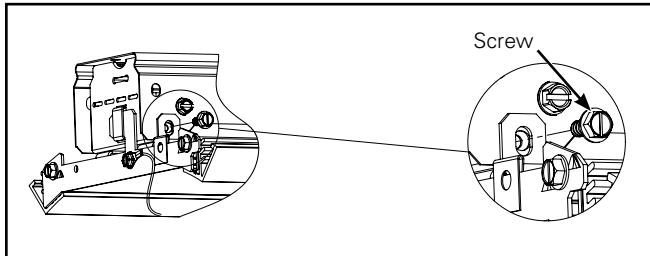

Figure 4.
4. Secure the waveguide assembly to channel assembly with screws provided, Figure 4. (One side of the fixture only) (Use a long bit or right angle tool).